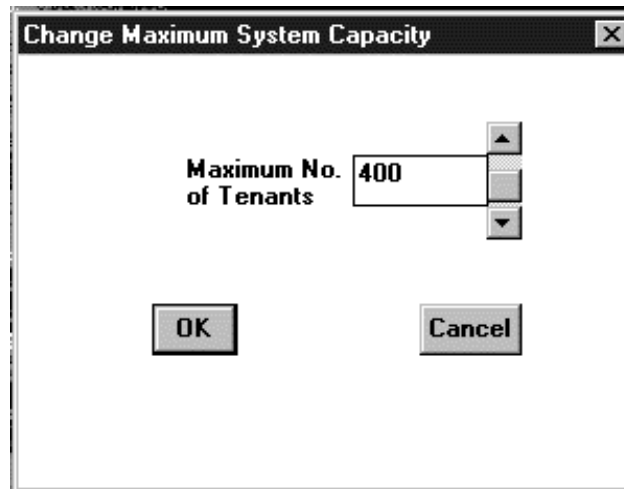

Figure 5.6.2.4
a) After selecting one of the **Max System Capacity** per section 5.6.2.1, the following *Change Maximum System Capacity* window (Figure 5.6.2.4) will appear: